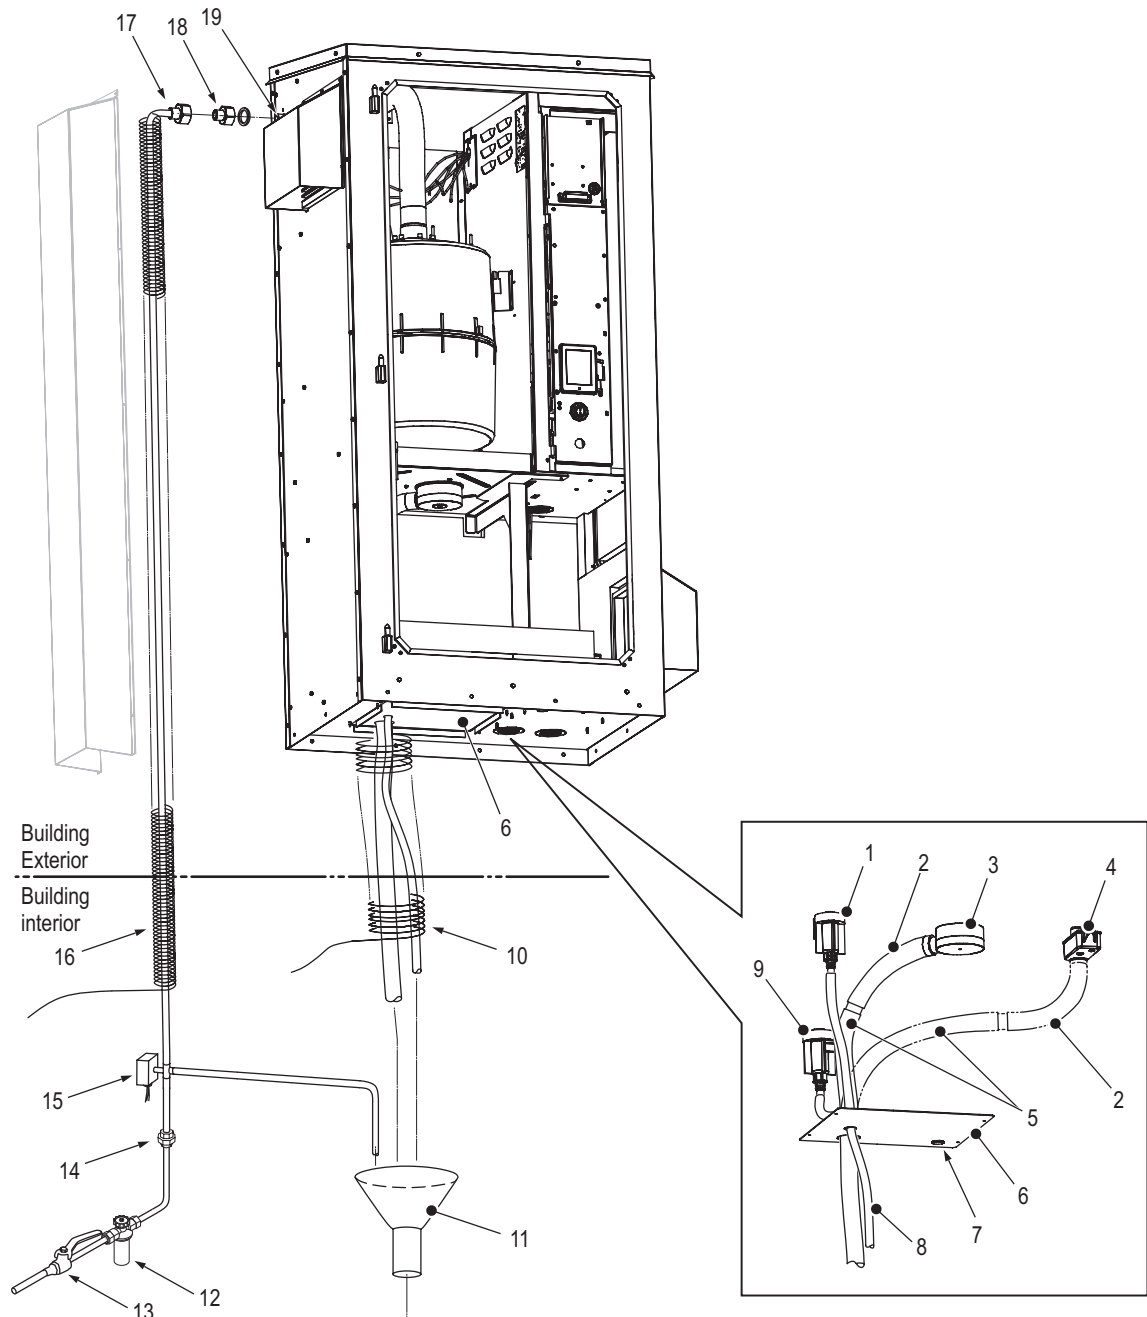

Figure 14: Water Supply and Drain Connections (medium size EL-OC unit shown)
Connect the water supply and drain lines as described below. Refer to *Figure 14*.
- Route a drain line (supplied by others) with an inside diameter of 1-3/16 in (30 mm) through the large hole in the bottom panel and connect it to the flexible bent hose (supplied) exiting the humidifier – refer to Figure 14 on page 32. Secure the line with clamps (supplied). Route the other end of the drain line to the air gap funnel.